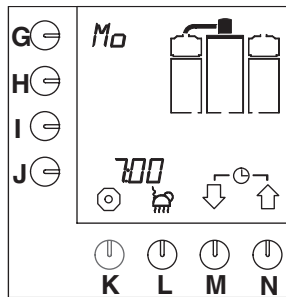

Fig. 13 Example current day and time
- The current day and time appear for a moment on the display (fig.13).
- The current day and time appear on the display (fig.13).